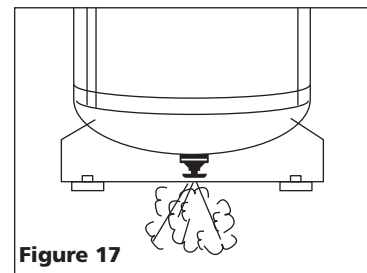

Figure 17
2. Drain Tank. With compressor shut off and pressure released, drain moisture from tank by opening drain valve underneath tank (See Figure 17).